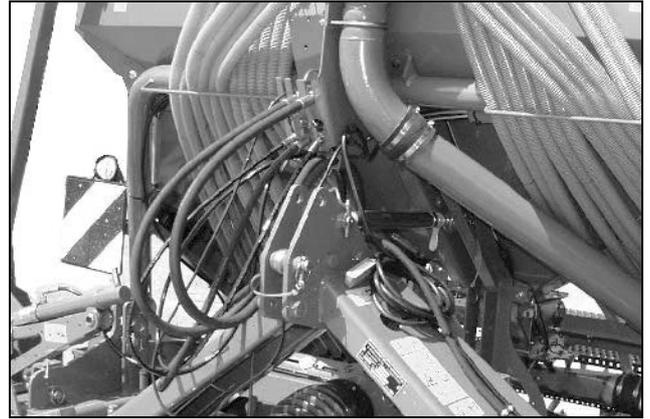

Fig. 46
- Remove the hydraulic hoses from the tractor and locate them in their parking position (Fig. 46).